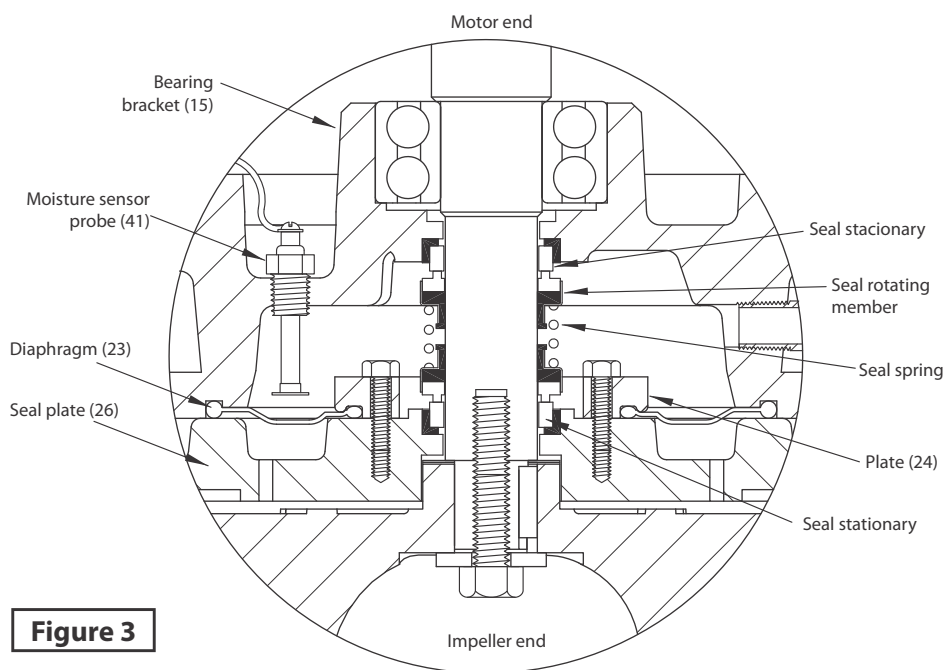

Figure 3
Seal/Diaphragm - (See Figure 3) Clean and oil seal cavities in bearing bracket (15) and seal plate (26). Lightly oil (**do not use grease**) outer surface of inboard and outboard stationary members of seal (19). Press inboard stationary member firmly into bearing bracket (15) and outboard stationary into seal plate (26), using a seal pusher tool. Nothing but the seal pusher tool is to come in contact with seal face.